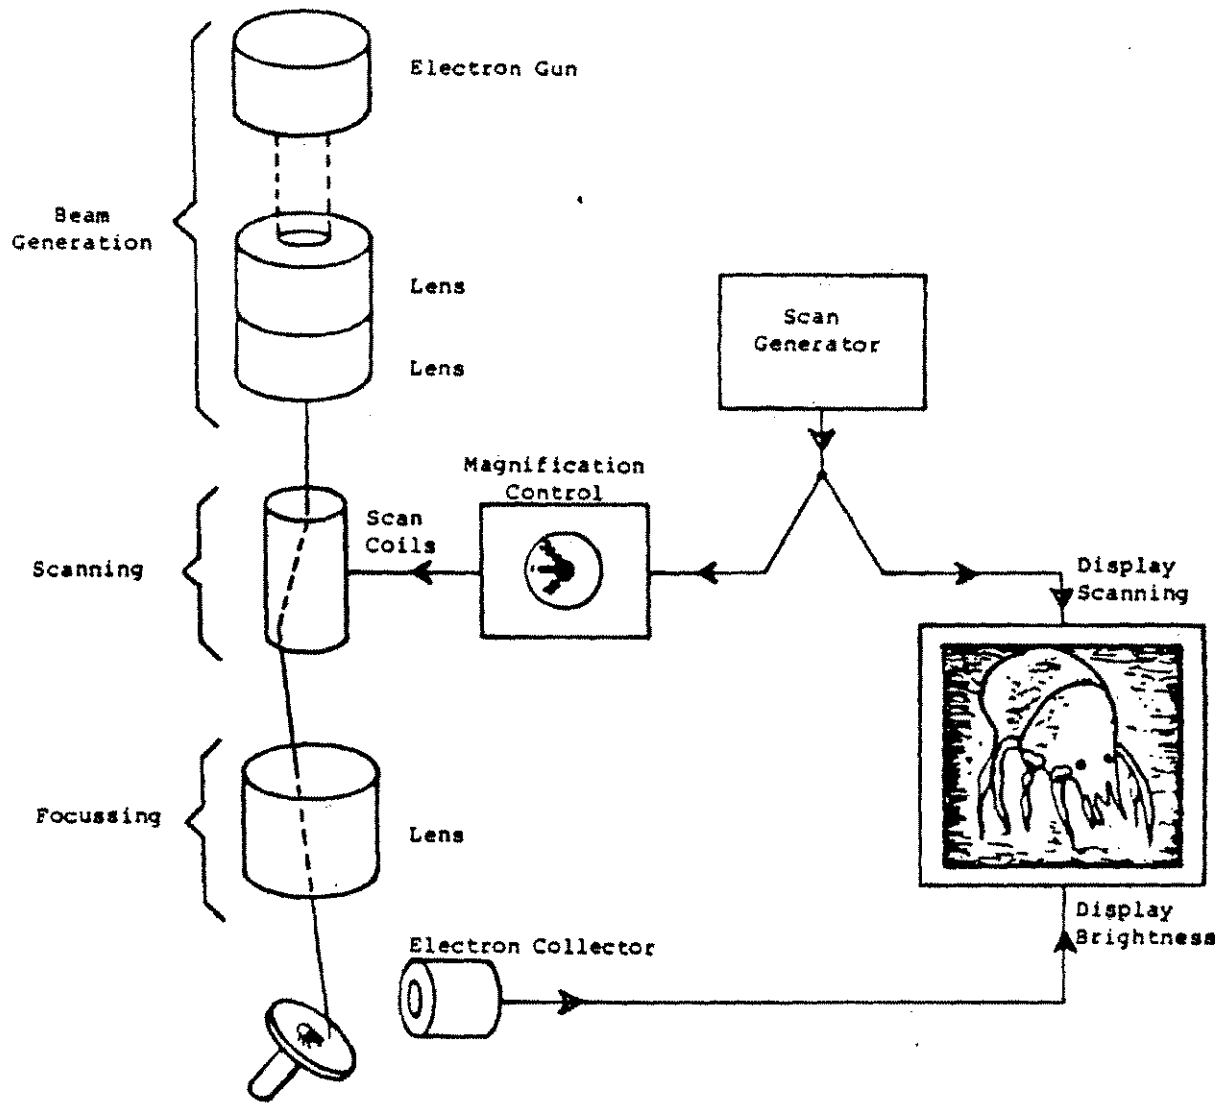

Figure 7.1
- Figure 7.1 A Basic SEM
The basic operating principle of an SEM is shown in figure 7.1. It can be seen that the SEM consists of five main components.